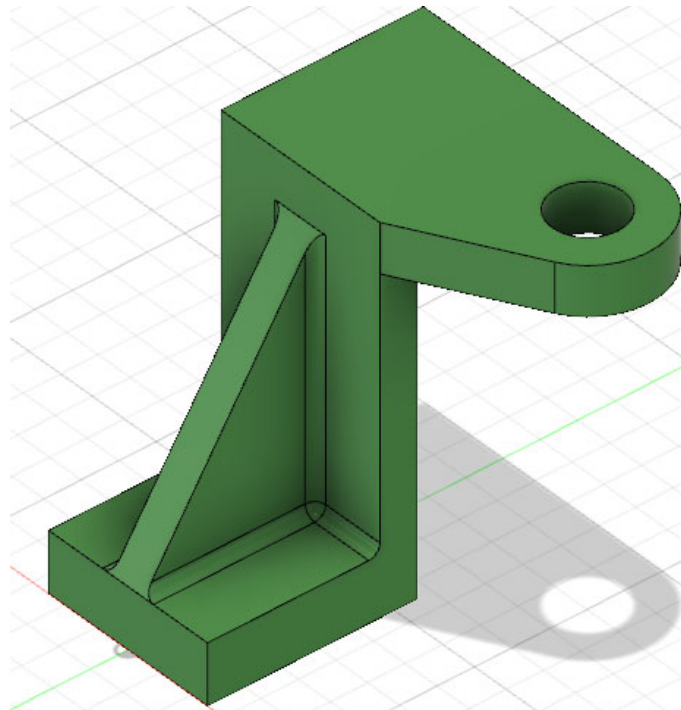

Fig. 14: Final Design Model
20. Save your design and the final design model is shown in Fig.14.